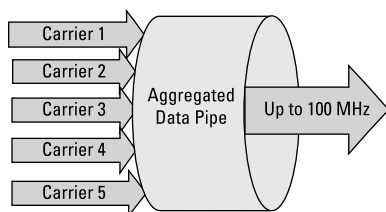

Figure 3-3: Carrier aggregation for faster throughput.
Network operators are striving to improve network performance in the face of increasing demands for data. Higher data rates are required to maintain the customer experience, and the direct path to achieve this is increased bandwidth. Carrier aggregation (CA) is a feature of 4G LTE-Advanced that allows service providers to offer higher data rates by bonding blocks of spectrum into a wider channel (see Figure 3-3). CA became